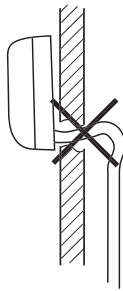

Fig. 9.1 Avoid rising bends
- Avoid installing the condensed water pipe with a rising bend (see Figure 9.1).